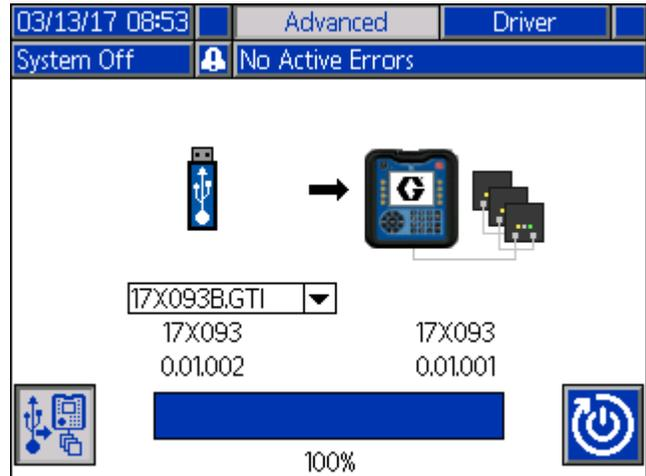

FIG. 12: Software Transfer Complete
- When the transfer is complete, the progress bar will be solid blue and 100% will be displayed as shown in **Figure 12**. Remove the USB drive and token from the ADM.